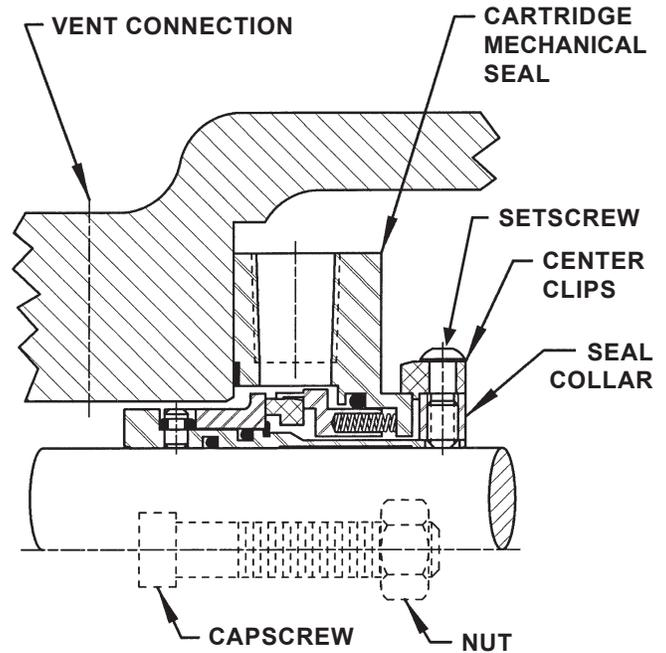

FIGURE 8
1. Cartridge (Figure 8)
3. (see Figure 8) Loosen setscrews on the seal collar to free the cartridge seal from the shaft.